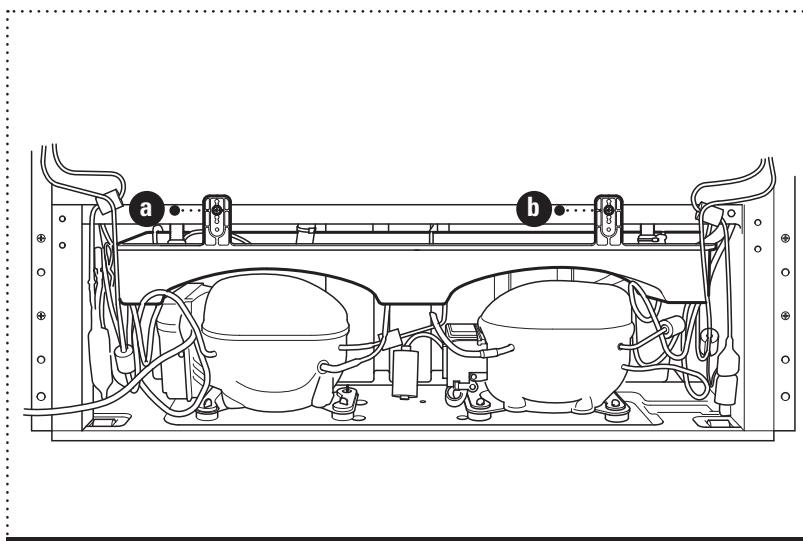

Figure 9
- 1 Remove the vaporisation container by unscrewing the 2 screws (**a** and **b**) (Figure 9)